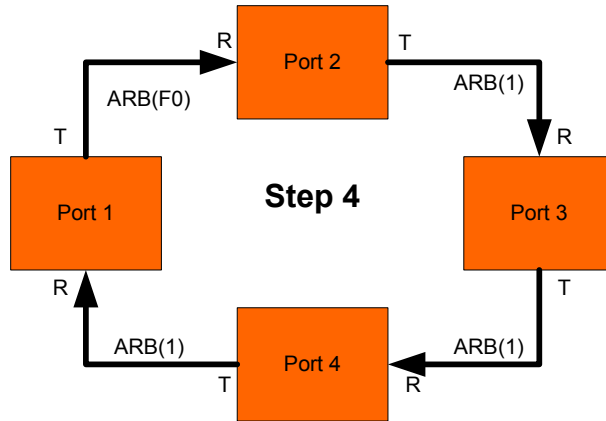

Figure 28 Arbitration Step 4
In **Step 4** (Figure 28), once the ARB(1) is received by Port 1 it has won arbitration and immediately changes its current fill word to ARB(F0). Port 1 now will discard any received ARB(x) and thus this prevents any other loop port from winning arbitration as its ARB(x) could not make it around the loop.